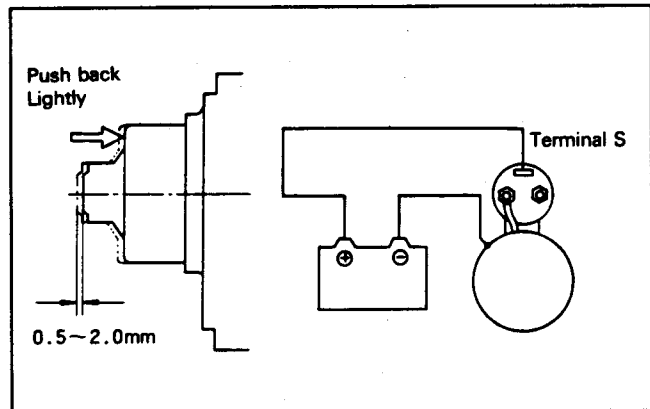

Figure 21
1. Install 12 volt battery between the "S" terminal and the starter body (Fig. 21). The pinion should protrude and stop.